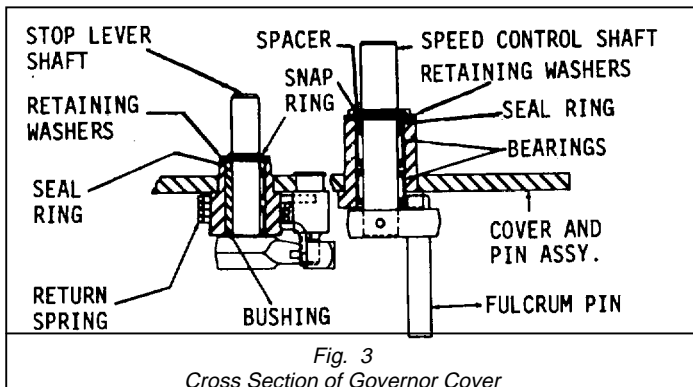

Fig. 3
- (1) Disassemble the governor cover (Fig. 3) as follows: